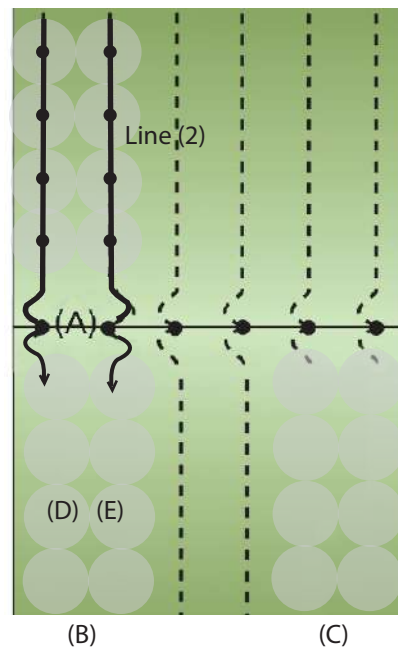

Figure 3.
Go to the submain (valve) end of the sprinkler line (1) (point (A) in Figure 3). Uncouple the line (1) from the submain, then connect the tow rope onto the K-Line™ and then tow towards point (B). The K-Line™ will end up in position (D). Unhook, install a plug end, then re-couple the K-Line™ back at the submain. Repeat this shifting process for line (2). Uncouple at point (A), then tow the line toward point (B). Install the plug and re-couple at point (A).